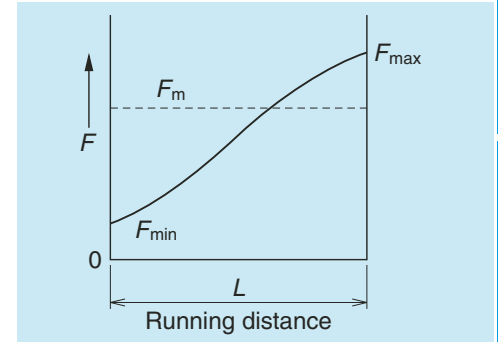

Fig. 2.4 Linear load change
(2) When load changes almost linearly (Fig. 2.4) Approximate mean effective load  $F_m$  can be obtained by the following formula.